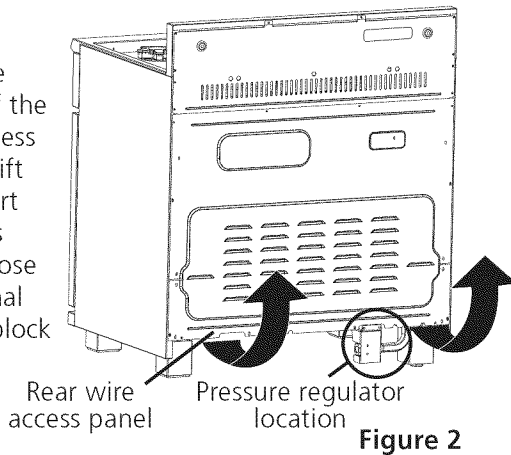

Figure 2
1. Remove the screws at the lower end of the rear wire access panel, then lift the lower part of the access panel to expose range terminal connection block (Fig. 2).
When shipped from the factory, this unit is designed to operate on 4" (10,16 cm) water column (1.0 kPa) Natural gas manifold pressure. A convertible pressure regulator is connected to the range manifold and **MUST** be connected in series with the gas supply line. The regulator is located as shown in figure 2 and it is accessible from front of the range.